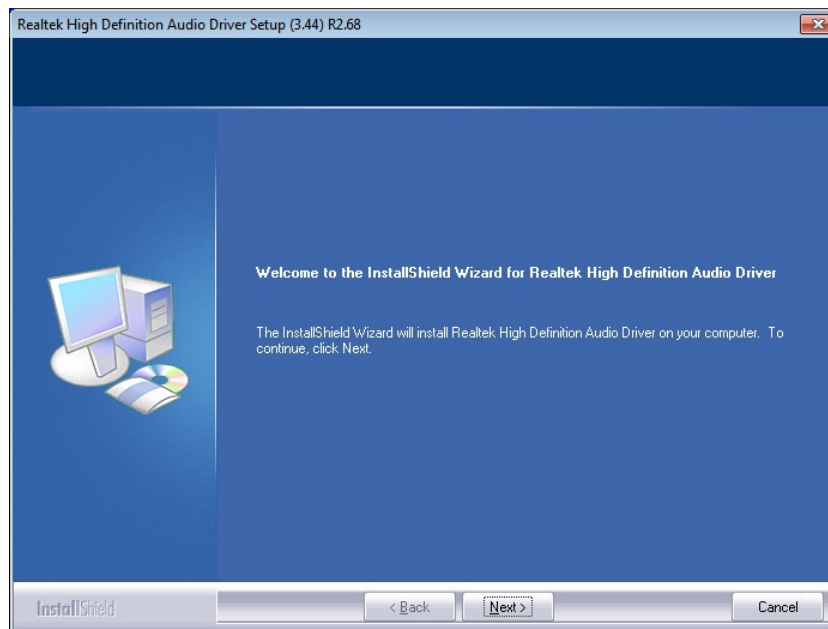

Figure 6-19: InstallShield Wizard Welcome Screen
Step 5: Once initialized, the **InstallShield Wizard** welcome screen appears (**Figure 6-19**).